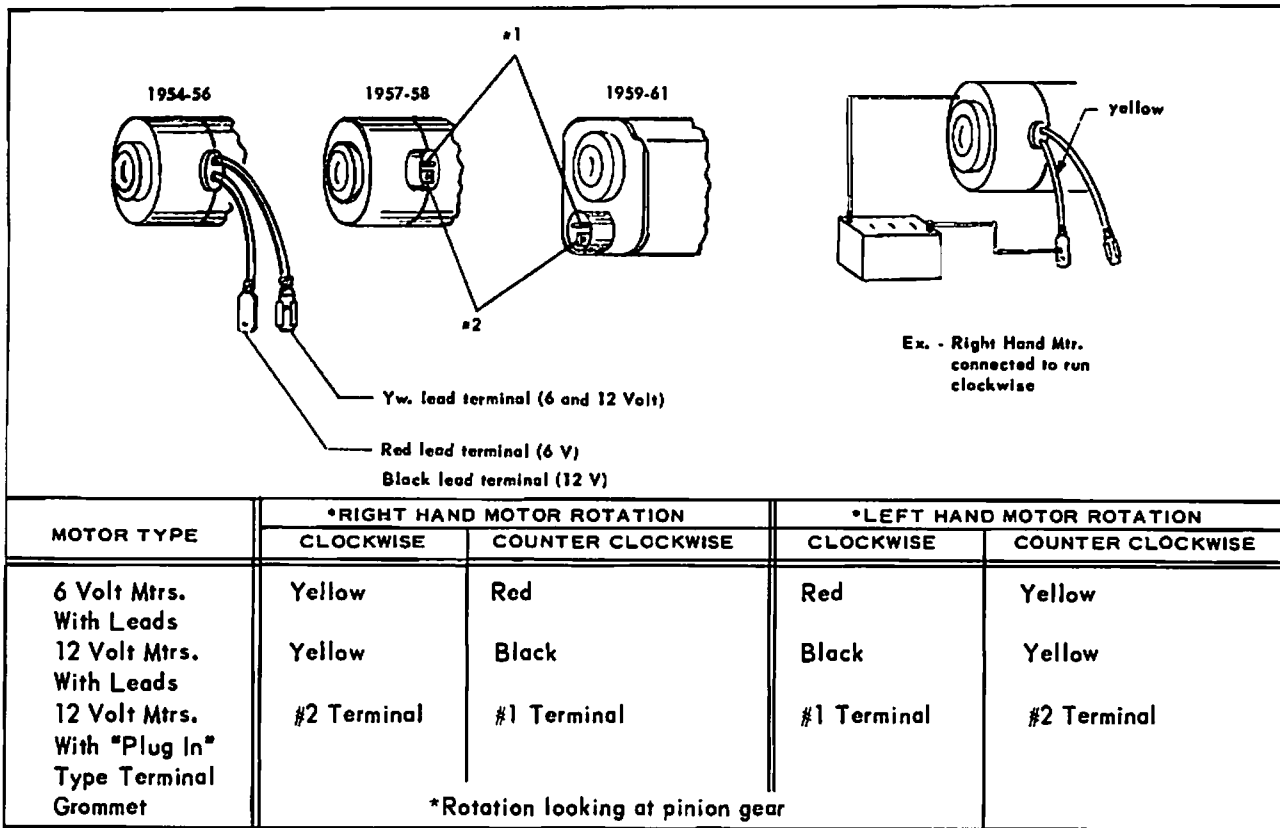

Figure 3-2
3. Refer to Lead Chart below (See Figure 3-2). Connect an ammeter between (+) side of power source and lead or terminal indicated for desired rotation, then connect ground (-) side of power source to motor housing.